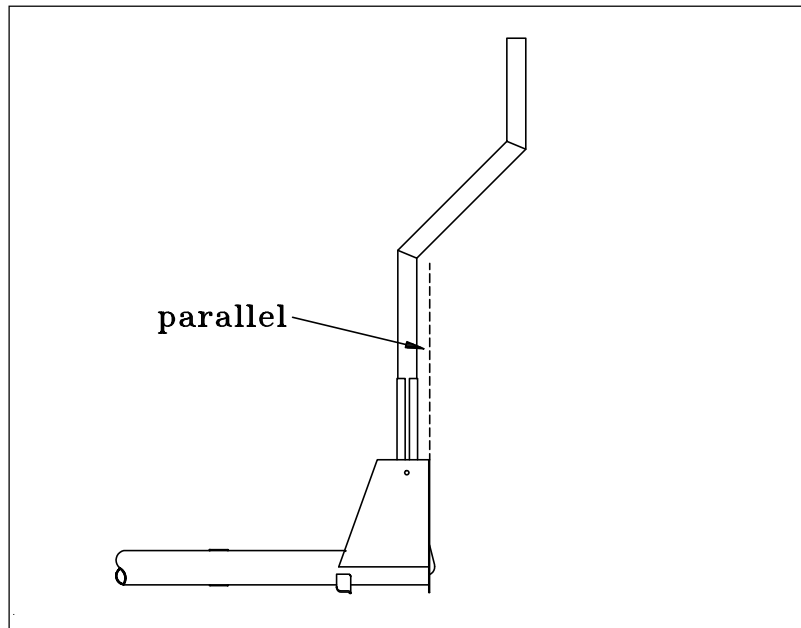

Figure 18 Neutral Position of the Rear Control Stick
- 2 Secure the rear control stick in the neutral position. (Vertical back edge of the torque tube parallel to the control stick like shown in Figure 18).